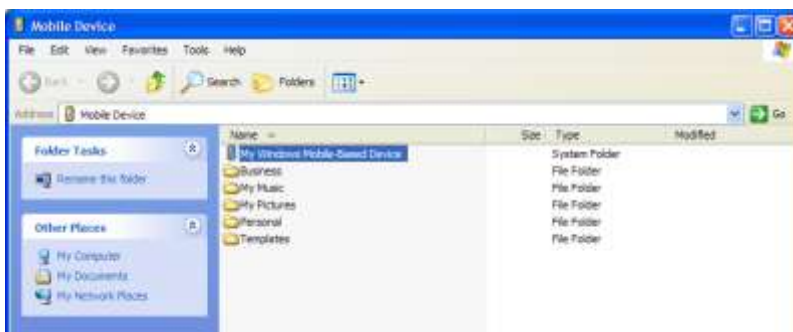

Figure 81: Mobile device window.
3. To access the PDA system and memory, select the **Explore** icon. This will access the Mobile Device window (Figure 81).